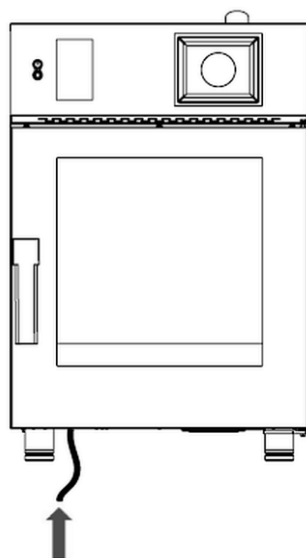

Fig. 6
- Enter the white cleaning agent tube into the tank. The tube is located at the bottom, left hand side of the appliance (Fig. 6).